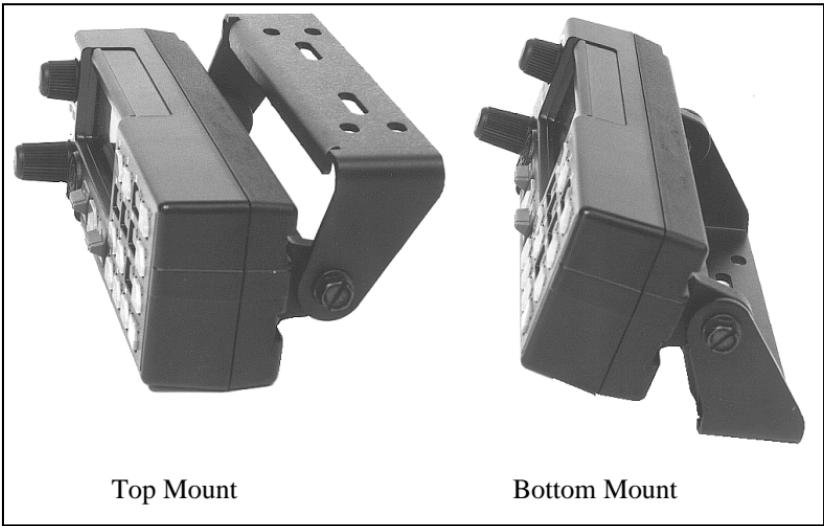

Figure 24 - Control Unit Mounting Bracket Installation
1. Using the bracket as a template, mark and drill the mounting holes. Be sure to leave enough room at the rear of the control unit for the cable connector. Refer to Figure 24 for control unit mounting bracket installation.
Typically the bracket shown in Figure 26 is used for Front Mount applications. The bracket can be mounted so that it is either above or below the radio for the user's convenience. The bracket pictured in Figure 24 can also be used for Remote Mount application but is **not recommended for 110 watt VHF radios or 100 watt UHF radios.**